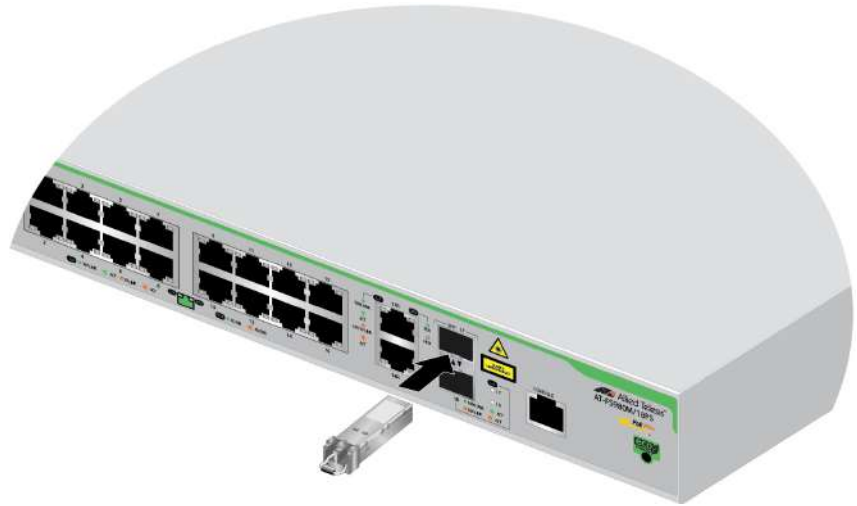

Figure 31. Installing an SFP Transceiver
3. Slide the transceiver into the slot until it clicks into place, as shown in Figure 31 on page 61.